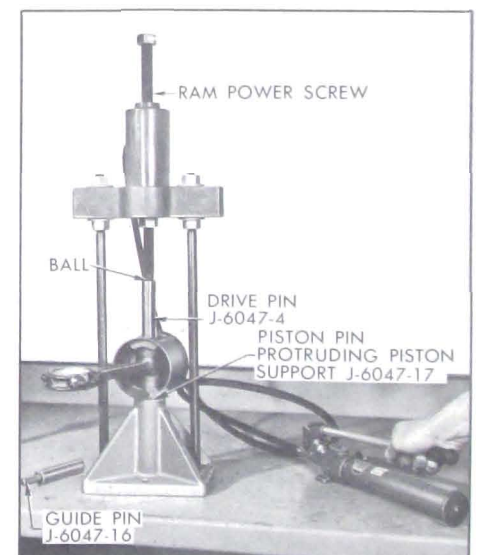

Figure 2-33—Piston Pin Removal
8. Place piston and rod assembly in press, see Figure 2-33. Using Piston Support J-6047-17 (with full radial face up) under the piston, place Drive Pin J-6047-4 in upper end of piston pin and press pin from rod and piston. Guide Pin J-6047-16 is not used during pin removal. See Figure 2-33.